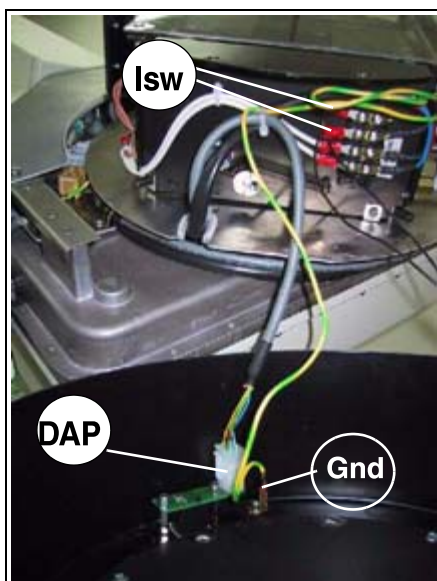

Fig. 87: Plug of cover
- ⇒ Turn the cover over, place it next to the single tank, and remove the connections: DAP plug; light switch, ground wire (Fig. 87 / p. 90).
- ⇒ Turn the cover over, place it next to the single tank, and remove the connections: DAP plug, light switch, ground wire (Fig. 87 / p. 90).
- Attach the collimator cover and connect the connectors (Fig. 87 / p. 90).